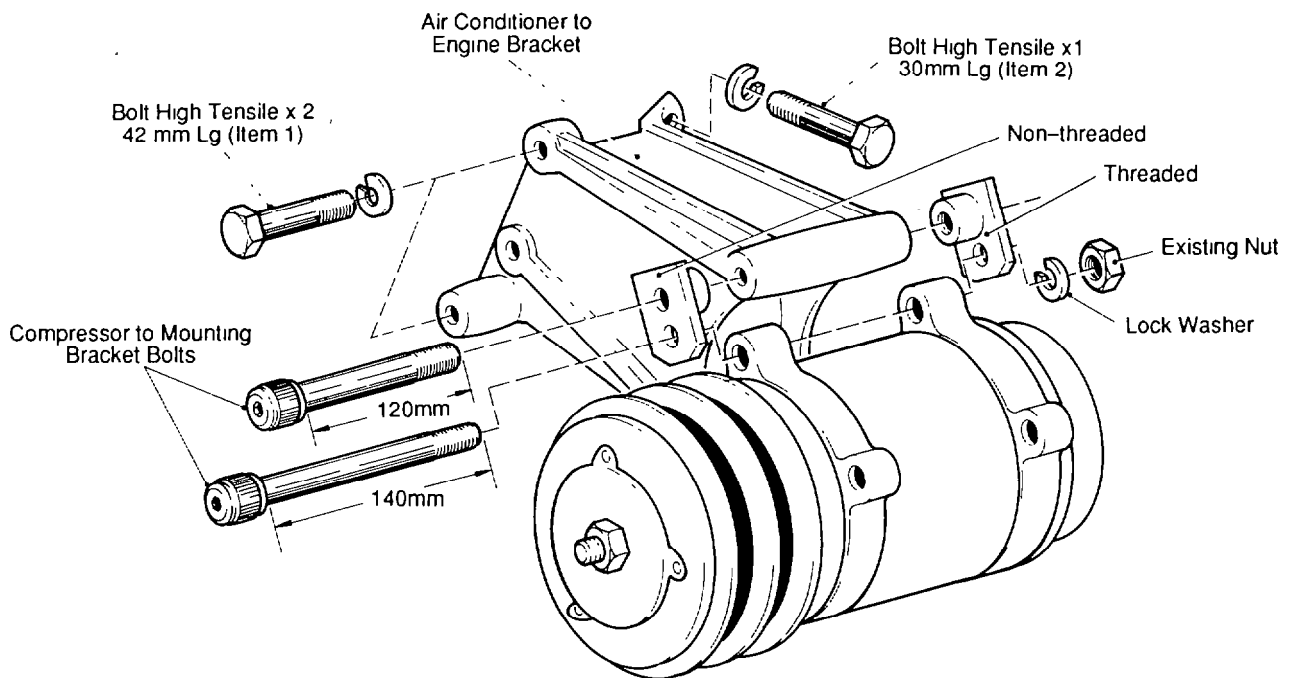

FIG 1 - AIR CONDITIONER MOUNTING BOLTS
- b. Replace the two existing front bracket to engine mounting bolts (parallel to engine) with new bolts (item 1) after applying Loctite 242 to the threads, as shown in Fig 1.
- c. Replace the rear bracket to engine mounting bolt (90 degree to engine) with a new bolt (item 2) after applying Loctite 242 to the thread as shown in Fig 1.